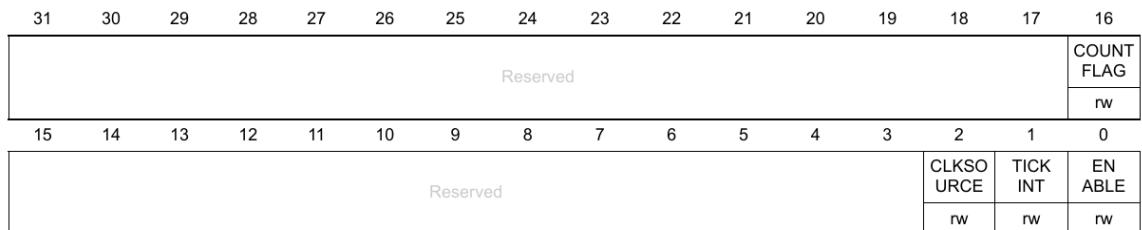

Figure 12.3.2.8.1: Control Register (CTRL)
**Solution:** Fig. 12.3.2.8.1 shows the SysTick CTRL register. 0x00010000 is used in the above command to mask all the bits except for bit 16, which is the COUNTFLAG. The **while** loop will stop once COUNTFLAG = 0. The while loop is used for the delay.
**Solution:** From Fig. 12.3.2.8.1, ENABLE = 1 enables the counter (for delay) and CLKSOURCE = 1 enables the 8 MHz internal RC clock.